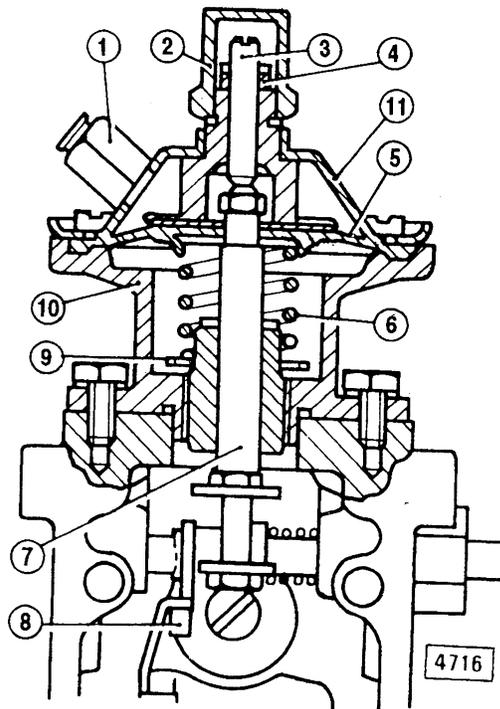

Fig. 1.4 - Section view of LDA device
The **LDA** device includes housing (10, fig. 1.4) and cover (11) blocking between them, membrane (5) that must be air tight. On the cover, connection (1) picks-up the turbo-charging pressure, whereas the membrane is pushed by spring (6) positioned against ring nut (9) mounted on the device cover. The latter can change, within certain limits, the spring pre-load, thus changing the beginning of the intervention of the **LDA** device, that should work at 0.13 ± 0.05 bar.